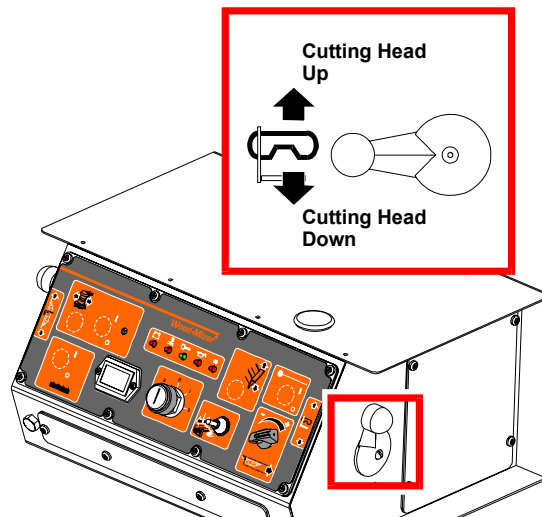

FIG. 4-2
**See Figure 4-2.** The up/down switch is located on the far right side of the control panel. Push the switch up to raise the cutting head; push the switch down to lower the cutting head. Hold the switch in position until the cutting head reaches the desired height, then release.